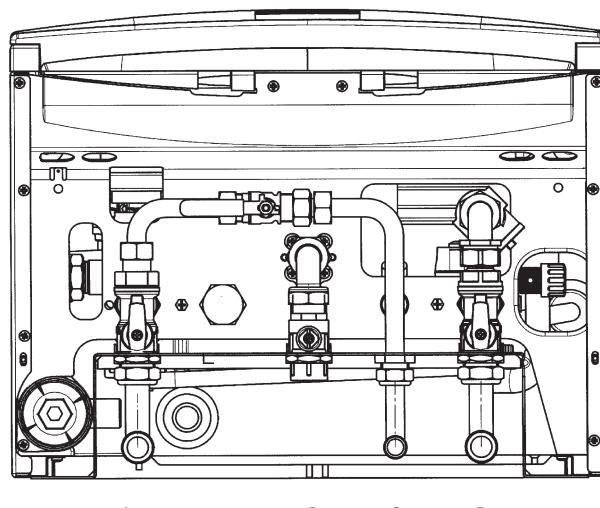

Fig. 18
4.5 CONNECT THE PIPEWORK - Fig. 18
4.5 CONNEXIONS AU RÉSEAU - Fig. 18